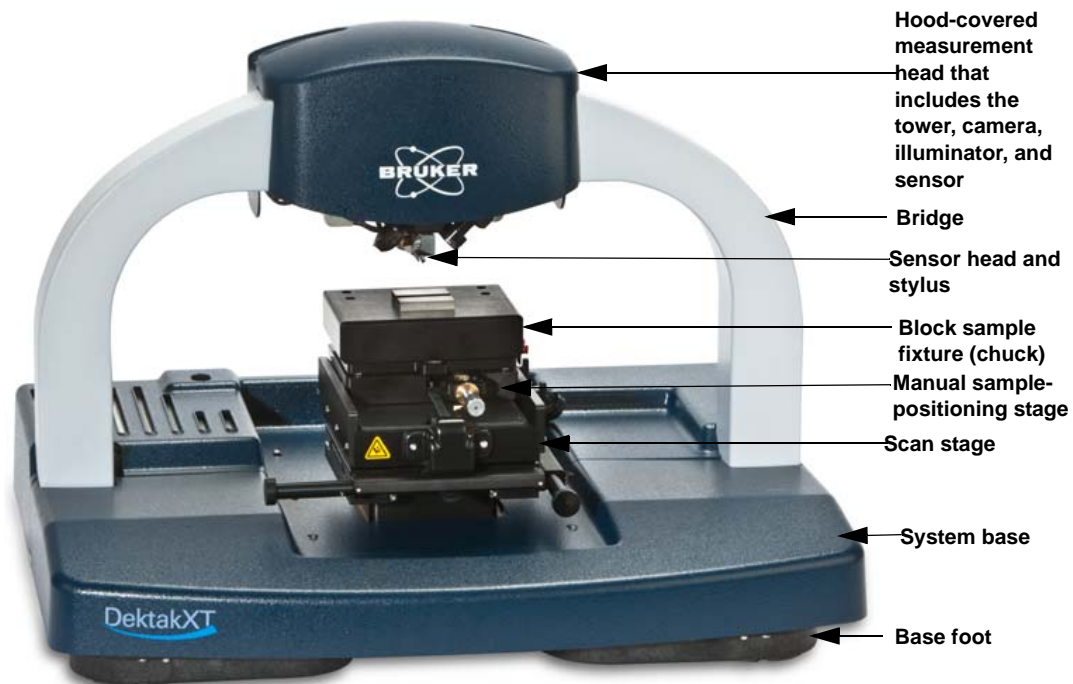
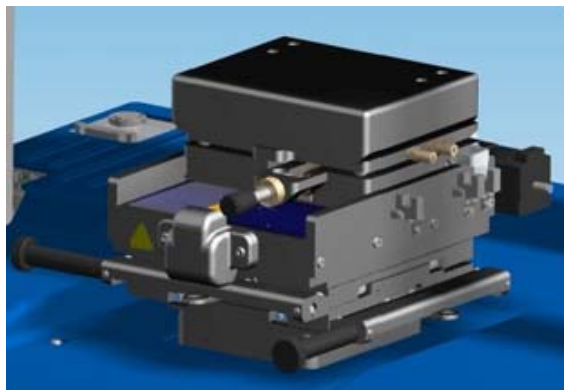
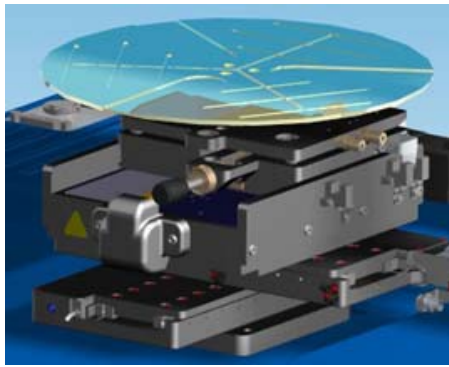
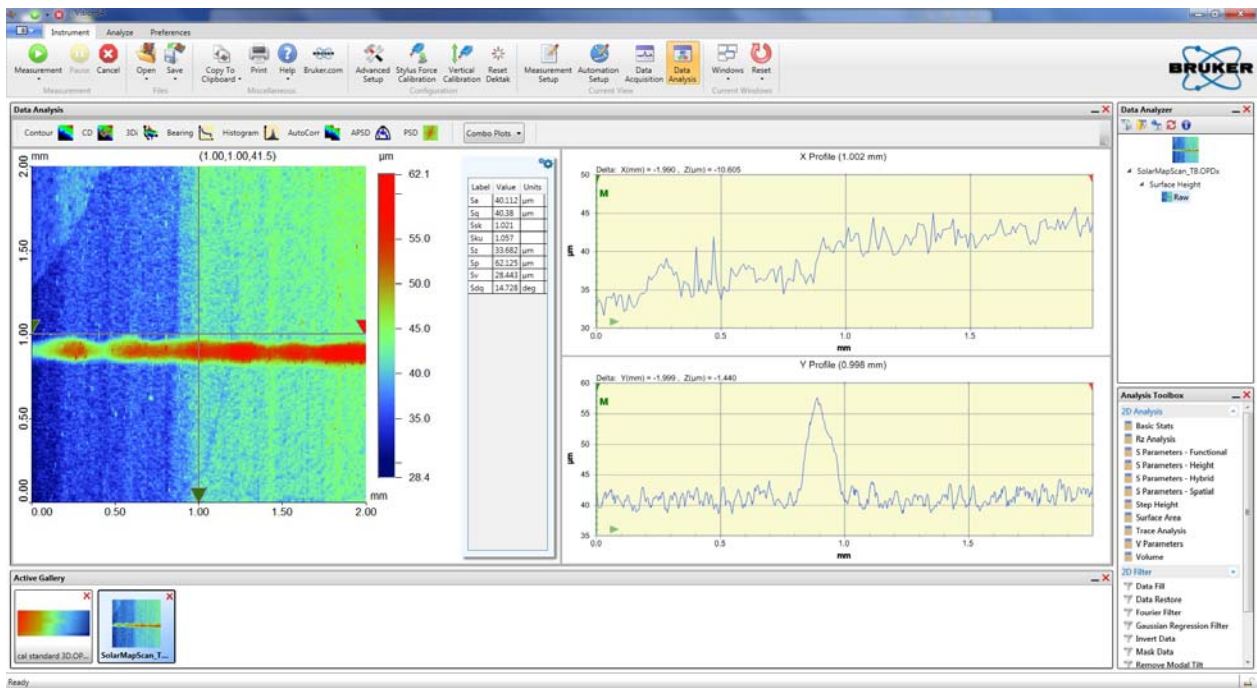

Figure 2-1: DektakXT Stylus Profiler with the Standard Manual X-Y Sample-Positioning Stage
Figure 2-2: Standard Manual Sample-Positioning Stage with Square Base Platform Fixture
Figure 2-3: X-Y Auto Stage with Wafer Vacuum Sample Fixture (Chuck)
Figure 2-15: 2D Contour Plot Generated with the 3D Mapping Option
The DektakXT[®] stylus surface profiler is an advanced thin and thick film step height measurement tool. In addition to profiling surface topography and waviness, the DektakXT system measures roughness in the nanometer range. Available with a standard manual sample-positioning stage (see Figure 2-1) or an optional automatic X-Y or theta stage (see Figure 2-3), it provides a step-height repeatability of 5Å (<0.6 nm).
- **The standard 2-D DektakXT system**, which includes a two-axis, manual sample-positioning stage with 101.6 x 101.6 mm (4 x 4 inches) of X-Y translation, manual leveling, two-point programmable or cursor software leveling, and manual theta rotation (see Figure 2-2). This standard stage accommodates samples up to 50 mm (1.9 inches) thick and performs long scans of 55 mm (2.16 inches). It provides ± 50.8 mm (2 inches) of X-Y translation as well as manual theta positioning (see Figure 2-3). The standard system is available with 50 mm (1.97 inch), 100 mm (3.94 inch), and 150 mm (5.90 inch) wafer alignment pins, along with one of the following sample fixtures (chucks):
- **The 3D Mapping and Automation Options**, which include an X-Y auto sample-positioning stage (see Figure 2-3). In addition to 3D mapping (see Figure 2-15), these options provide automation and programmability of up to 200 sites on samples of up to 150 mm (5.90 inches) in diameter. The X-Y auto sample-positioning stage includes one of the following sample fixtures (chucks):
As shown in Figure 2-1, the DektakXT stylus surface profiler system contains all of the mechanical, electrical, and optical components for sample positioning, sample viewing, and scanning/measurement. As described in Stage Configurations on page 2-2, the system can be configured with a manual or X-Y auto stage. Its sturdy single-arch bridge design reduces sensitivity to adverse environmental conditions.
The hood-covered measurement head shown in Figure 2-1 houses a USB video camera and an LED illuminator to assist the operator in feature location and stylus centering. The live video output of the camera provides feedback to the operator during a scan measurement.
A diamond-tipped stylus (see Figure 2-3) attached to the sensor head permits accurate two-dimensional surface profiler measurements in a wide range of applications. In standard configuration, user-programmable stylus force from 1 mg to 15 mg allows profiling on soft or hard surfaces.
- The 3D Mapping Option that enables true 3D-mapping (see Figure 2-15), calculates the bearing ratio, and performs many other analyses.